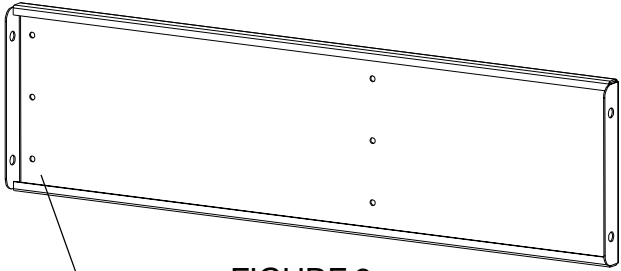

FIGURE 3
Determine which side you want your shelf to pull out from. Use **FIGURE 3** as reference. Attach the shelf support brackets to both set of holes between the legs with screws (CC) as shown in **FIGURE 4**. Then separate each slide and attach the outer section to the inside of each shelf support bracket with screws (JJ) and nuts (KK) as shown in **FIGURE 5**. **NOTE: Attach rear screw and nut first.**